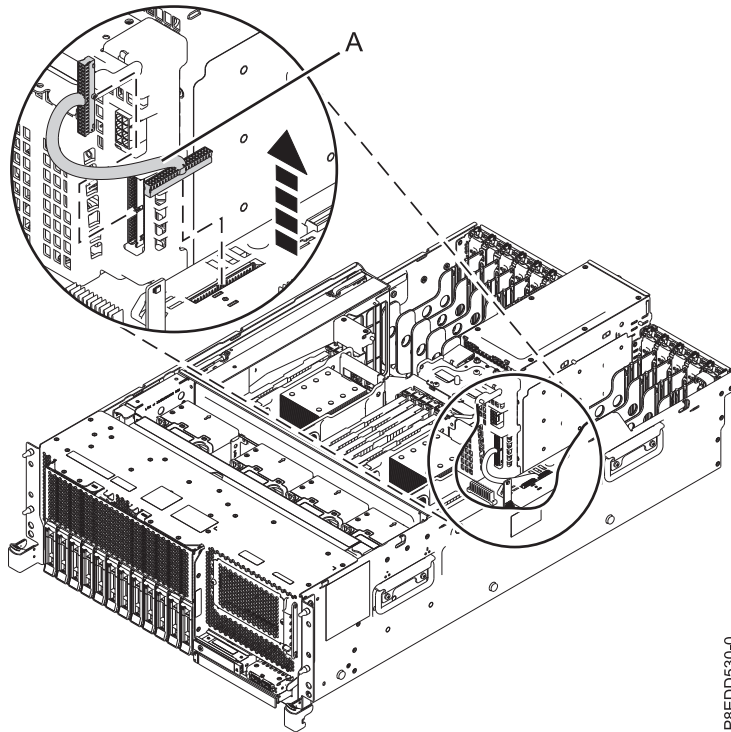

Figure 8. Removing the power distribution signal cable
15. Disconnect and remove the power distribution signal cable (A) from the rear of the power supply assembly and the system backplane connector. See Figure 8.